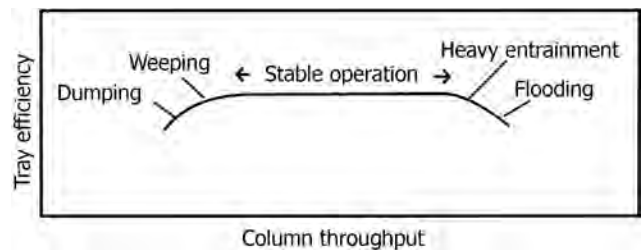

FIGURE 16.9 Tray performance versus throughput.
- Figure 16.9 illustrates the regions of stable operation indicating regions of drop in efficiency as a result of the causes indicated above for such a drop.